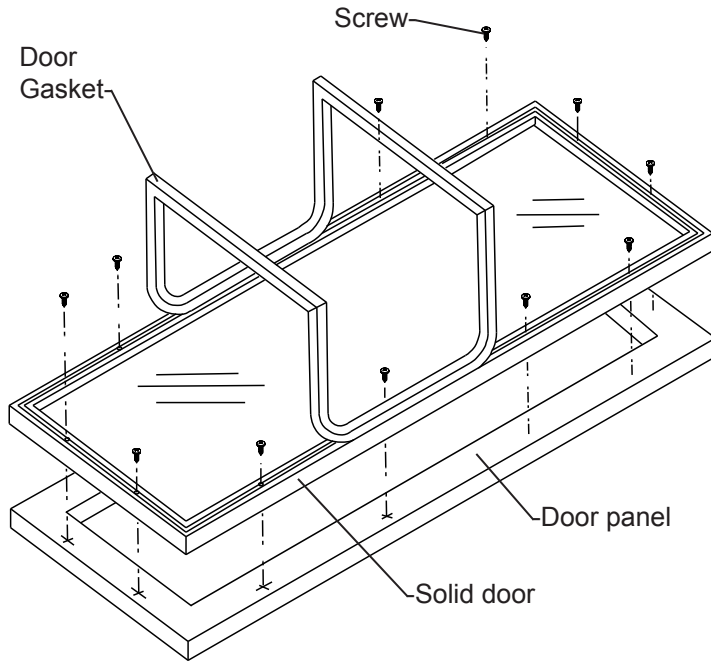

Figure 31
1. Remove the gasket from the door front. (See Figure 31). Do this by pulling the gasket out of the channel that holds it to the door front. This will expose the clearance holes for mounting the custom overlay panel. (See Figure 31).
2. Set the door on the overlay panel and align edges. (See Figure 31). Clamp panel in position and mark pilot hole locations. Pick the required pilot hole size from "Table D" below and drill the pilot holes ensuring not to drill all the way through the overlay panel.